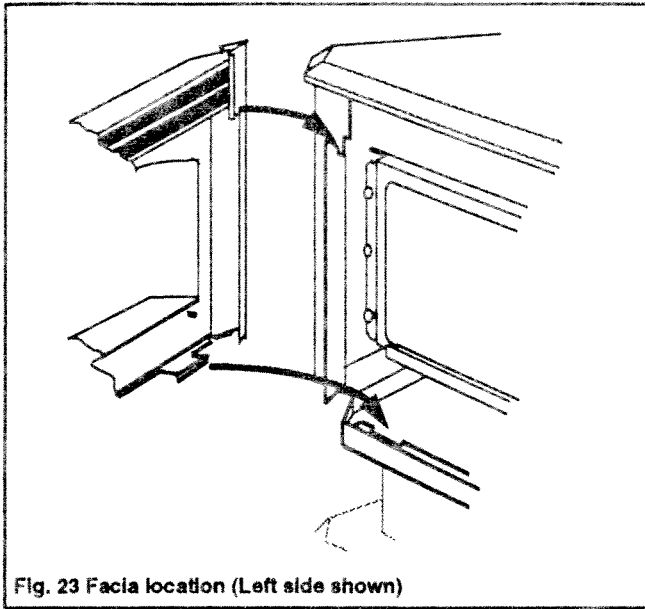

Fig. 23 Fascia location (Left side shown)
- 18.2 Locate the facia unit to the appliance front (see figure 23). Locate the top corners and the bottom. We suggest the following order: